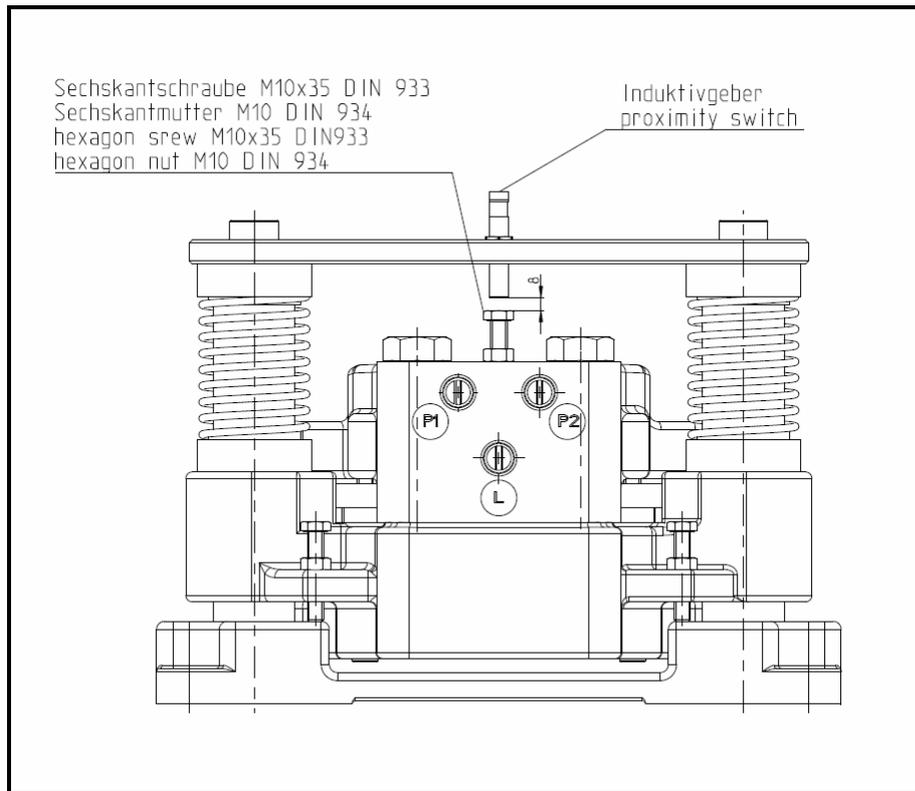

Fig. 13.5
- Screw the hexagon screw M10x35 DIN 933 into the brake housing as shown in figure 13.5 with hexagon nut M10 DIN 934.